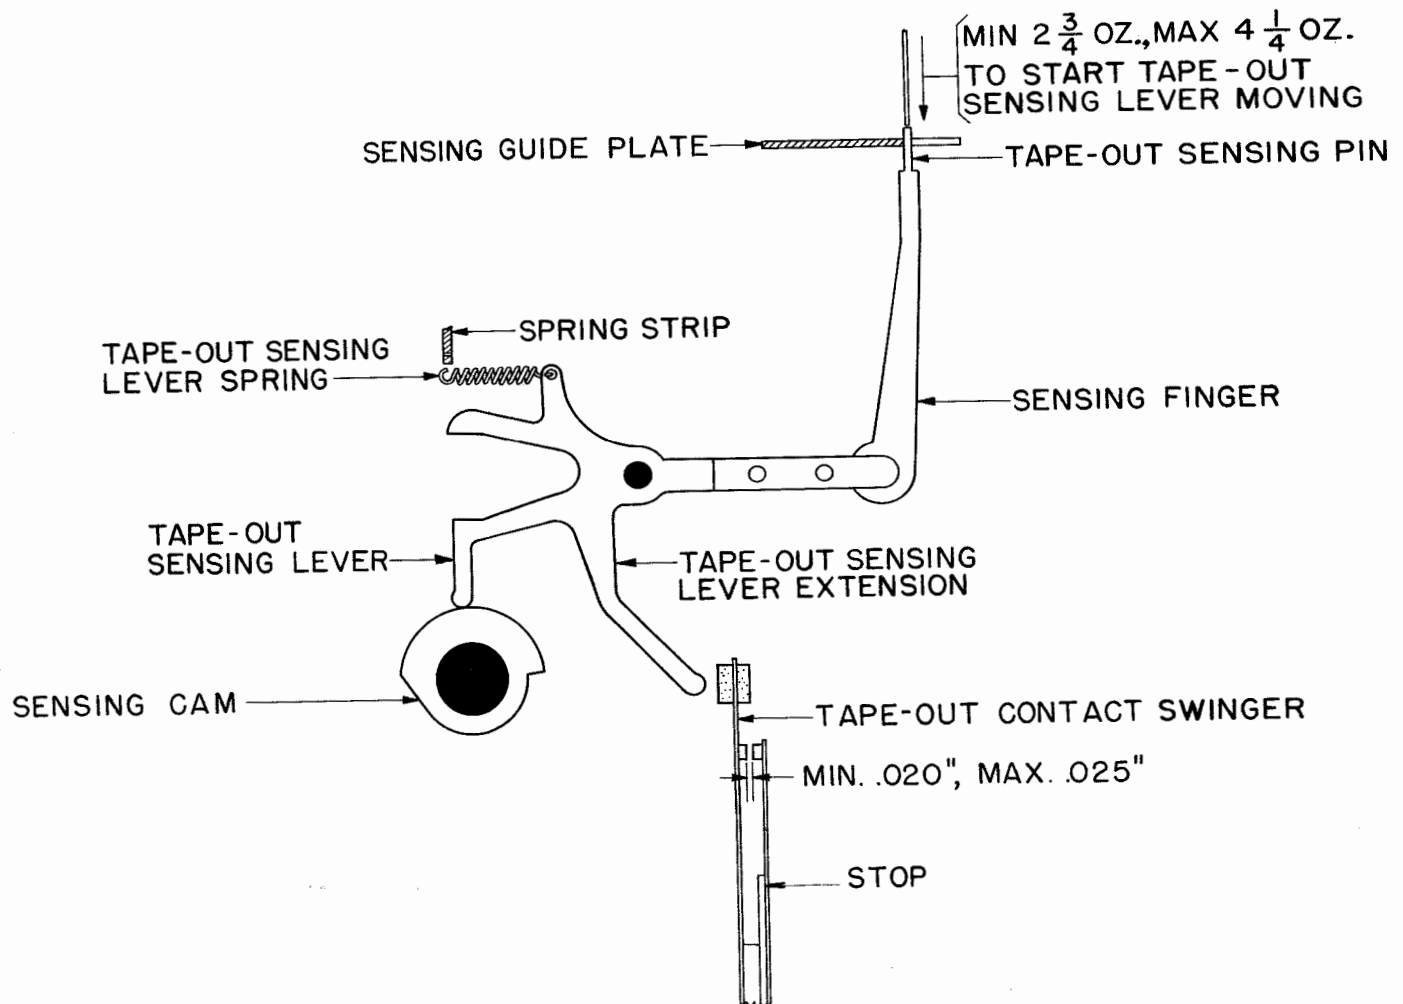

Figure 70
2.138 Tape-out Sensing-lever Spring: It shall require a push as indicated in Figure 70 to start the tape-out sensing-lever moving when the lever is in its uppermost position, the tape-out-contact swinger held away from the extension, and the pivoted transmitter held in its vertical position.
(b) The short contact-spring shall rest lightly against its stop. See Figure 70.
(c) The long and short contact-springs shall be approximately parallel and at approximately right angles to their mounting bracket. There shall be a clearance as indicated in Figure 70 between the contacts of the opposing springs.